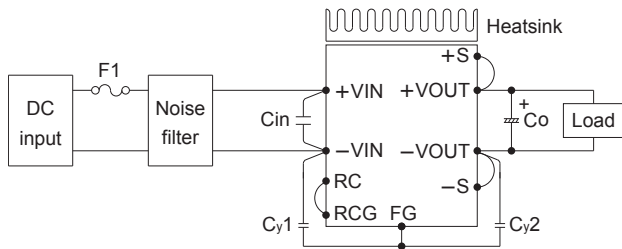

Fig.1.1 Connection for standard use
■ In order to use the power supply, it is necessary to wire as shown in Fig.1.1 and external components in table1.1.